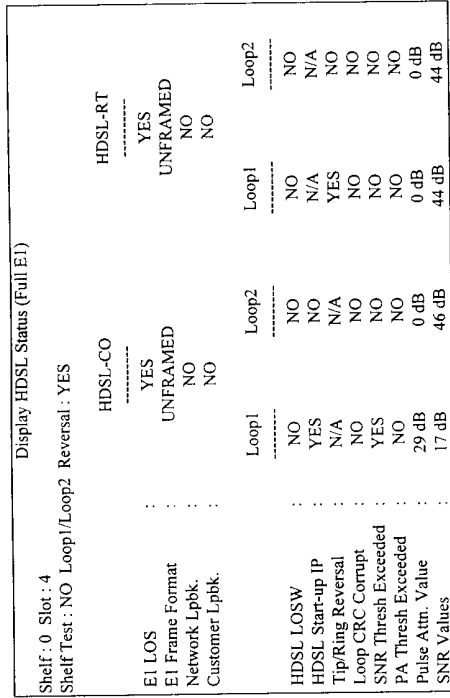

Figure 3-11 Status Screen
- Use the Arrow keys to select Display Status from the Display Status Menu. Press the Return or Enter key. Figure 3-11 shows a Display Status screen